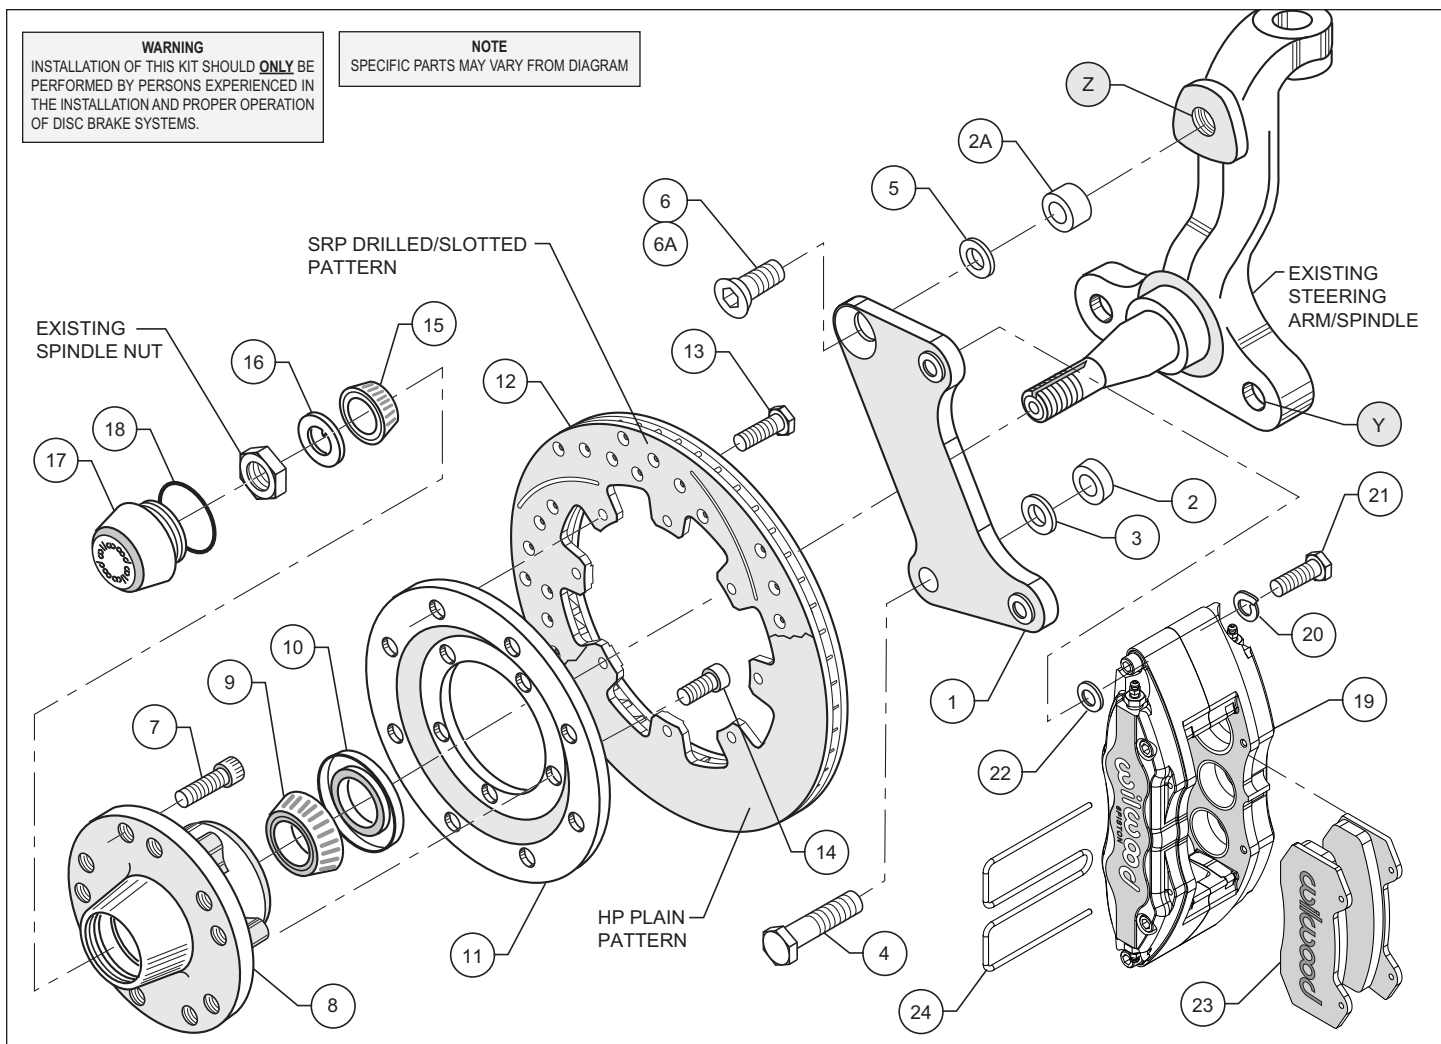
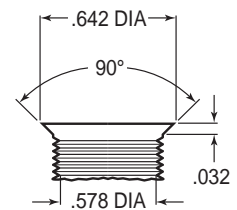
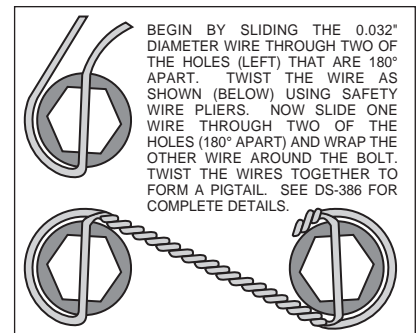

Figure 1. Typical Installation Configuration
Figure 3. Drill and Tap Detail
Figure 4. Safety Wire Diagram
•**NOTE:** 1964-66 spindles may require the following modifications (reference Figure 1 and Figure 3): Top anchor pin hole (Z) must be drilled and tapped to the dimensions as outlined in Figure 3. Bottom rear steering arm bolt hole (Y) in the spindle and steering arm must be enlarged to .50" by drilling. A 1/2-20 backing nut (not supplied in kit) will need to be acquired to torque bracket / steering arm bolt (supplied in kit).
•Apply red *Loctite*® 271 to bolt threads (4 and 6, or 6A for disc spindle application) before assembly of the caliper mounting bracket (1). Mount bracket (1) to dust face plate of spindle using the bottom bolt (4) while positioning washers (2 and 3) between bracket and spindle face, finger tighten only. Slide the upper bolt (6) through the bracket (1) and washer (5) (or, for disc brake spindle, use 6A with spacer 2A and washer 5 positioned between bracket and top hole of spindle face) and into the spindle, torque to 140 ft-lb. Torque bolts (4) to 85 ft-lb. **NOTE:** Be sure the heads of the bracket (1) insert nuts are facing outward toward the wheel.
•Install wheel studs (7) into the hub (8). Torque to 77 ft-lb. **NOTE:** There are two five lug patterns in the hub (5 x 4.50 and 5 x 4.75). Make sure of the correct hole pattern for the correct wheel application before installing studs into hub.
•Pack the large inner bearing cone (9) with high temperature disc brake bearing grease (available from your local auto parts store) and install into the backside of the hub (8).
•Install the grease seal (10) by pressing into the backside of the hub (8).
•Attach rotor adapter plate (11) to rotor (12) using bolts (13). Torque bolts (13) to 180 in-lb. Safety wire bolts (13) using standard 0.032 inch diameter stainless steel safety wire as shown in Figure 4. Please refer to Wilwood's data sheet DS-386 (available at [www.wilwood.com/pdf/ds386.pdf](http://www.wilwood.com/pdf/ds386.pdf)) for complete safety wire installation instructions. **NOTE:** Dished side of adapter plate (11) should face hub (8). The mounting tabs on the rotor (12) should face toward the hub as well and line up with the holes on the adapter plate (11).
•Mount the adapter/rotor assembly (11 and 12) to the hub (8) using bolts (14). Torque bolts (14) to 25 ft-lb. Safety wire bolts (14).
•Pack the small outer bearing cone (15) with high temperature disc brake bearing grease and install into front of hub (8). Slide the hub/rotor assembly (8 and 12) with outer bearing cone (15) onto the spindle. Secure using spindle washer (16), stock adjusting nut and nut locking device. Adjust bearings per Original Equipment Manufacturer (OEM) specifications.
•Install the dust cap (17) onto the hub (8). Friction created by the o-ring (18) on the dust cap (17) keeps it from unscrewing. The O.D. of the existing spindle washer may be larger than the I.D. of the dust cap (17) not allowing it to seat against the hub face. Some grinding on the washer O.D. may be necessary to clear the I.D. of the dust cap (17).
•**NOTE:** Please reference the caution statement at the beginning of the assembly instructions. With the bleed screws pointing up, mount the caliper (19) onto the caliper bracket (1) using lock washers (20), bolts (21) and caliper spacer (22) positioned between caliper and bracket. Finger tighten. View the rotor (12) through the top opening of the caliper (19). The rotor (12) should be aligned in the center of the caliper (19). If not, adjust the caliper (20) by using 0.032 inch thick shims (22) placed between the caliper mounting bracket (1) and the caliper (19). Finger tighten and recheck alignment. Apply red *Loctite*® 271 to bolt threads (21) and torque to 30 ft-lb. Safety wire caliper bolts (21).
•Install the disc brake pads (23) and secure using cotter pin (24). Repeat procedure for the other wheel.